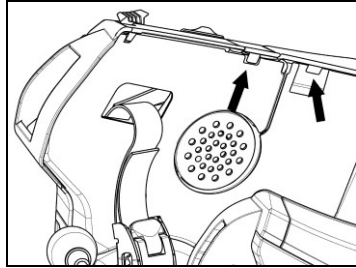

Fig. 17
- Reposition the plastic lining of the cheek padding, arranging it behind the two small stop hooks (Fig. 17).